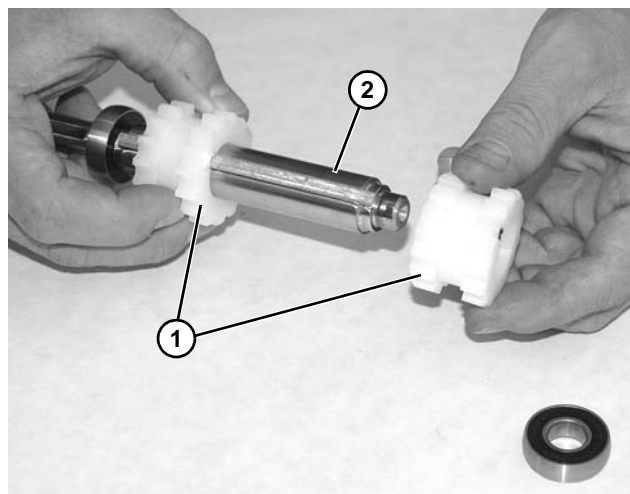

Figure 37
4. Slide free moving sprocket(s) (Figure 37, item 1) off the end of pulley (Figure 37, item 2).